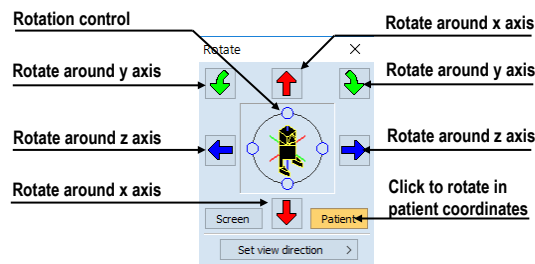

Figure 337 – Rotate tool (Patient mode)
- rotation in patient coordinates (see Figure 337)